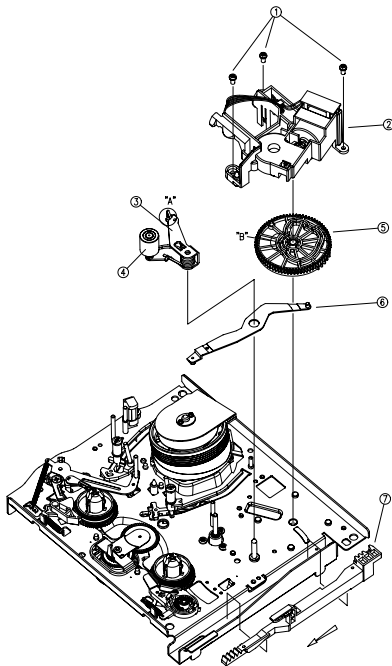

Fig. 3.10 Deassembly of the LC BRACKET ASS'Y from the PINCH LEVER TOTAL ASS'Y
6. Deassembly of the LC BRKT ASS'Y, PINCH LEVER TOTAL ASS'Y (Fig. 3.10)
- Separate the LC BRKT Ass'y ② after removing the 3 screw ①.
- Separate the LC BRKT Ass'y ② from the DECK MECHANISM.
- Disintegrate the PINCH LEVER TOTAL Ass'y ③.
7. Deassembly of the CAM GEAR, RELAY LEVER, FL RACK (Fig. 3.10)
- Separate the CAM GEAR ⑤ from the MAINBASE.
- Separate the RELAY LEVER ⑥ from the MAINBASE.
- Separate the FL RACK ⑦ from MAINBASE by moving to the arrow direction.